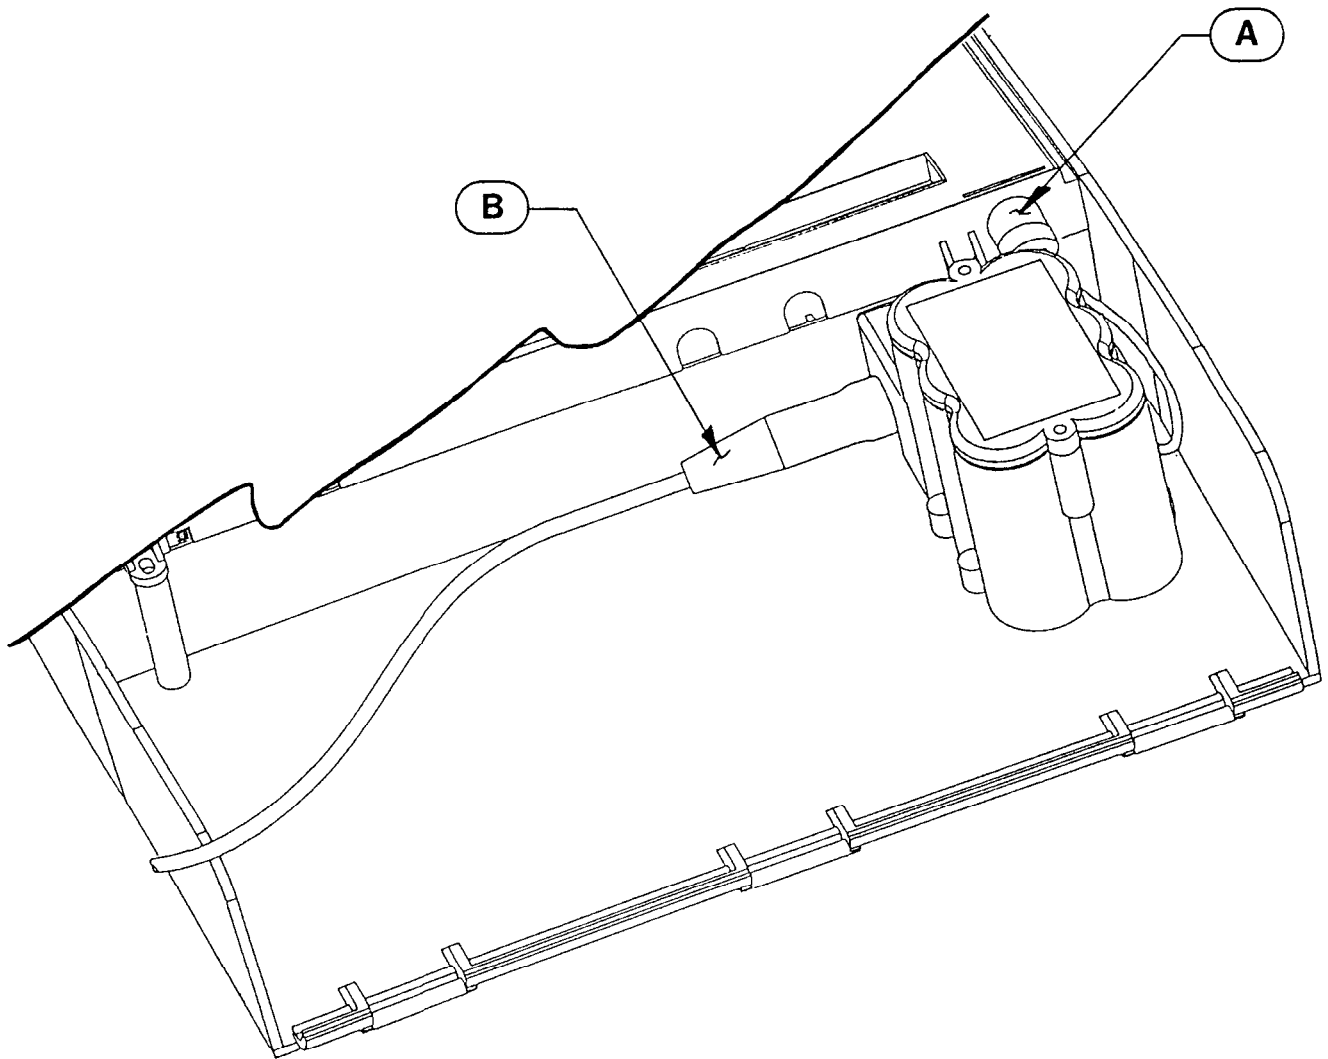

Figure 10-2: BATTERY POWER CONNECTION
- c. Connect the battery pack power cord (A) to the power cord receptacle on the rear panel of the audiometer. For line power operation (mains) or recharging, connect the instrument power cord (B) to the receptacle on the lower edge of the battery pack (perpendicular to the instrument rear panel). (See Figure 10-2).